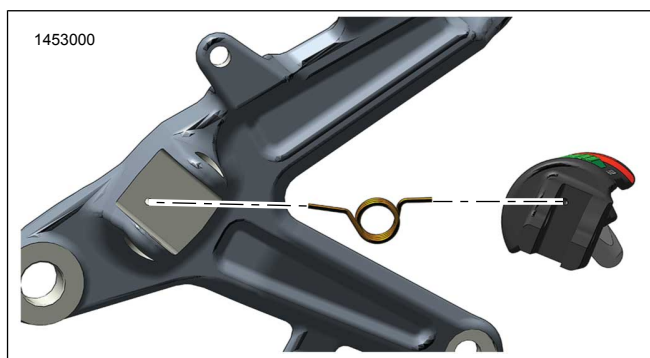
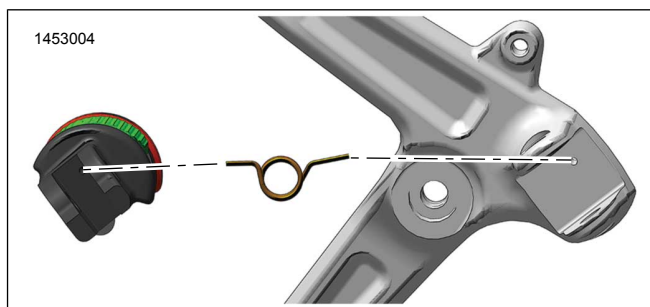

Figure 5. Return Spring Orientation - Right
Figure 6. Return Spring Orientation - Left
2. See Figure 5 or Figure 6. Position return spring (B) in to footpeg assembly.